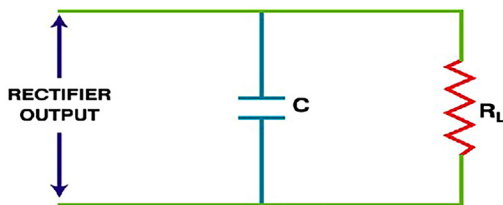

Fig. 7.10 Capacitor Filter
This is the simplest and cheapest filter. The capacitor (C) is placed across the rectifier output, in parallel with the load resistor (R_L) shown in Fig. 7.10. The rectifier gives a pulsating DC voltage, which is applied to the capacitor. The capacitor helps to remove the AC components of the signal by giving it an easy path to flow through. So the AC does not reach the load. This works because a capacitor behaves differently for AC and DC. The resistance offered by a capacitor is called capacitive reactance, and it depends on the frequency of the signal. The expression for capacitive reactance is